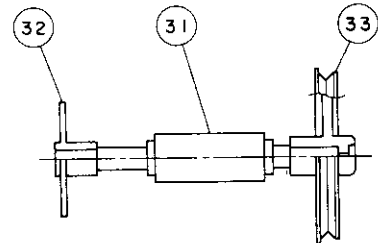

Figure 16
2. Worm gear (31) Assy
As described in Fig. 16 pressing insert the Shifter (32) and pulley to the long and short bars of Worm Gear (31) respectively. When the Encoder (32) is assembled, make sure that the left end of the bar is on the same level as the face of the shorter boss of shifter. When the Pulley (33) is assembled, press the pulley as long as it goes.